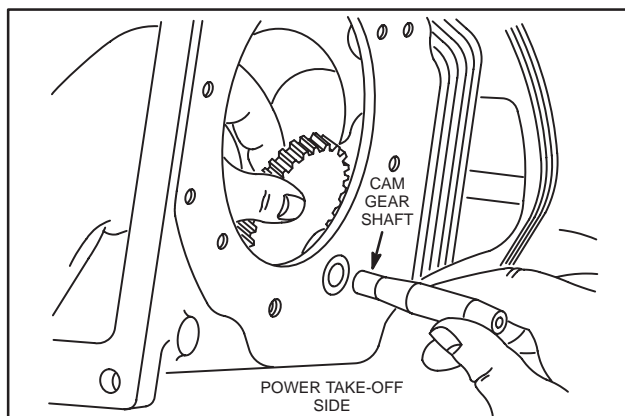

Fig. 885 – INSTALLING CAMSHAFT
3. Slide cam gear shaft thru power take-off bearing side and into cam gear, Fig. 885.